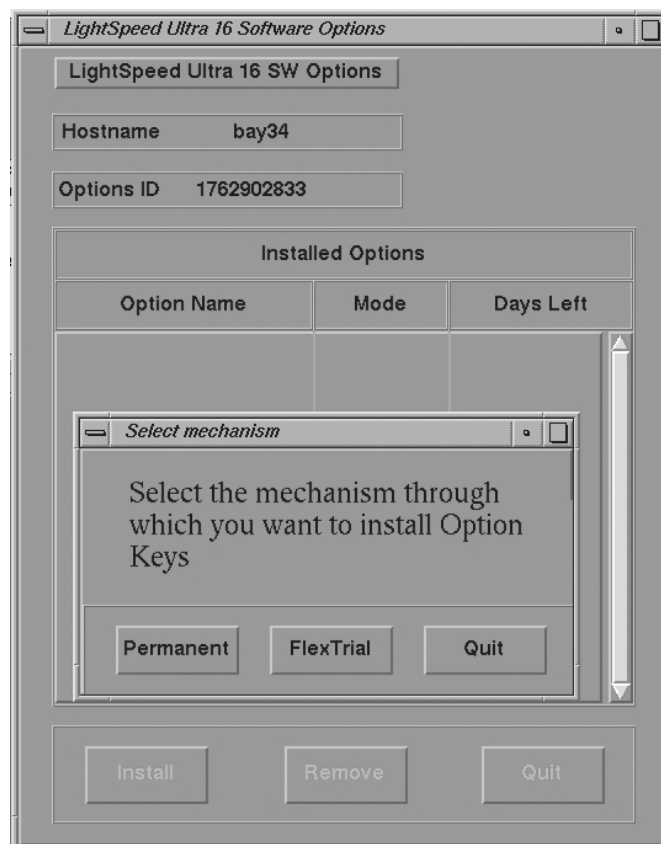

Figure 7-6 Options Window when First Selected
- 4.) Select INSTALL OPTIONS and click START. The console displays the Software Options window as shown in Figure 7-6.
- 13.) Click on the ACCEPT button. The system will check valid setup entries, execute a perl script that makes changes to the configuration files for HIS/RIS, and return to the Software Option window shown in Figure 7-6.